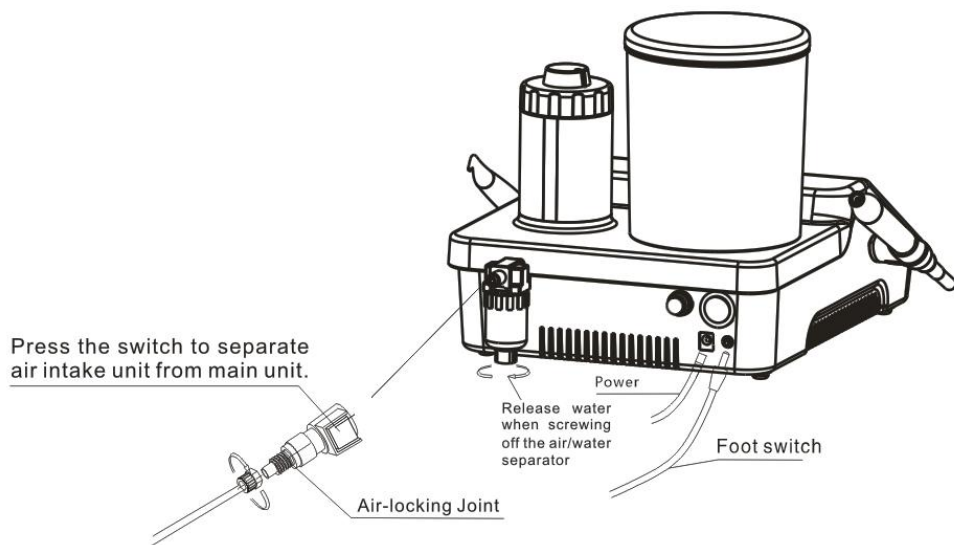
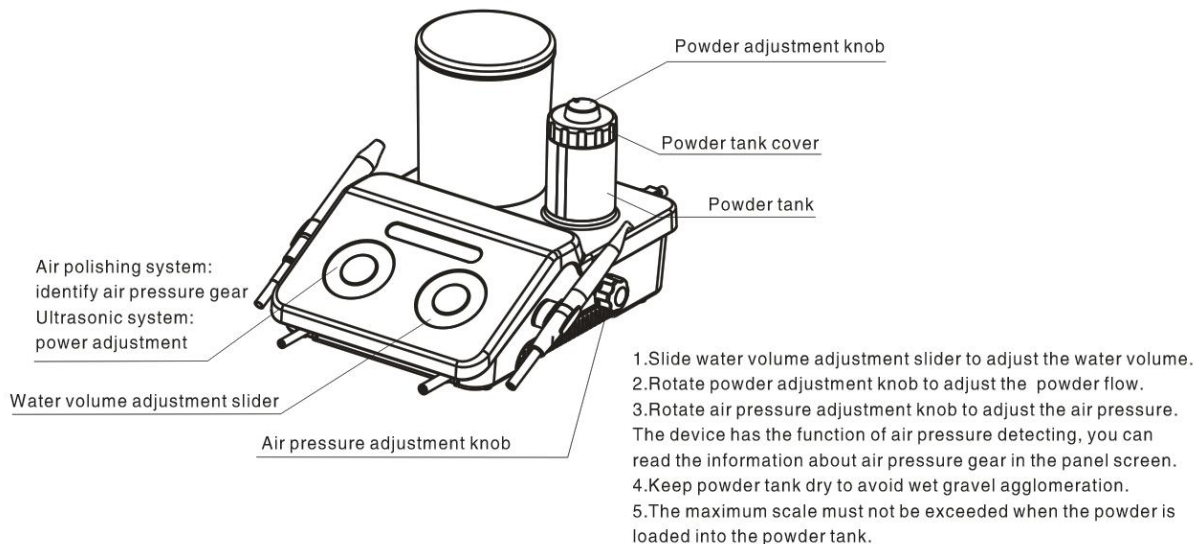
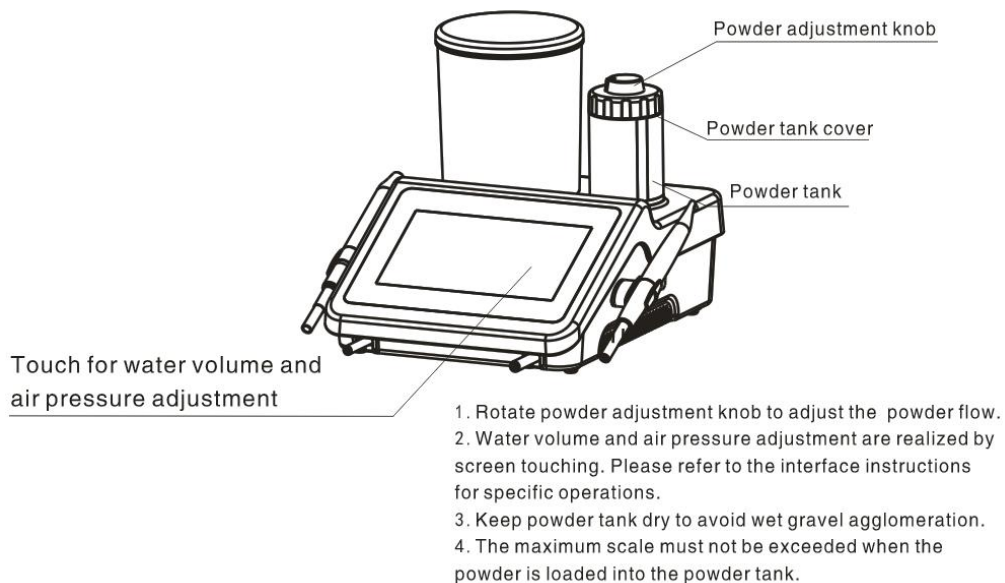

Figure 14
Figure 15
Figure 16
- 2) Insert the external air pipe (black) connector into the air intake connector on the back of the main unit: press the snap ring first and then insert the air inlet connector as shown in Figure 14. Insert the powder chamber into the position of powder chamber above the main unit (Figure 15, Figure 16).
- 3) Fill a proper amount of water into the transparent water bottle, and insert the water bottle into the sink seat above the main unit (Figure 15, Figure 16).
- 3) If the device is DQ-40, adjust the air pressure knob by sliding the water flow rate adjustment slider (see Figure 15 for details). If the device is DQ-80, adjust the water flow rate by clicking the "+" or "-" button of water flow rate on the touch panel, adjust the air pressure by clicking the "+" or "-" button of